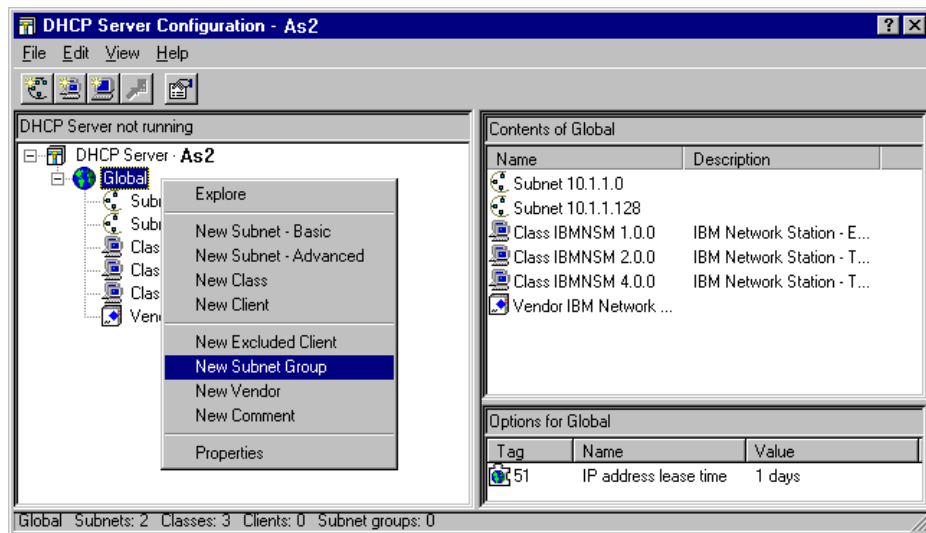

Figure 93. DHCP Configuration - Forming a New Subnet Group
2. Click **New Subnet Group** as shown in Figure 93 on page 185.